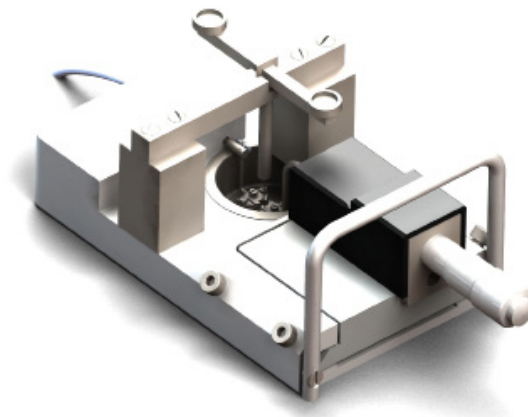

Figure 4.6 - Weight calibration kit shown in place on a single myograph chamber
2. Set up the calibration kit (bridge and balance) on one of the myograph chambers as illustrated in Figure 4.6. Also place the weight on one of the chambers. Turn the heat on as discussed in Chapter 3. The system takes about 20 to 30 minutes to reach 37 °C. Obviously, lower temperatures take less time and higher temperatures take more time to reach. Make sure adequate time is allowed so that calibration can be performed at the temperature at which the experiments will be performed. Placing the calibration kit and weight on the chamber allows them to warm up to the experimental target temperature. No need to bubble the chambers while waiting for the system to heat up.